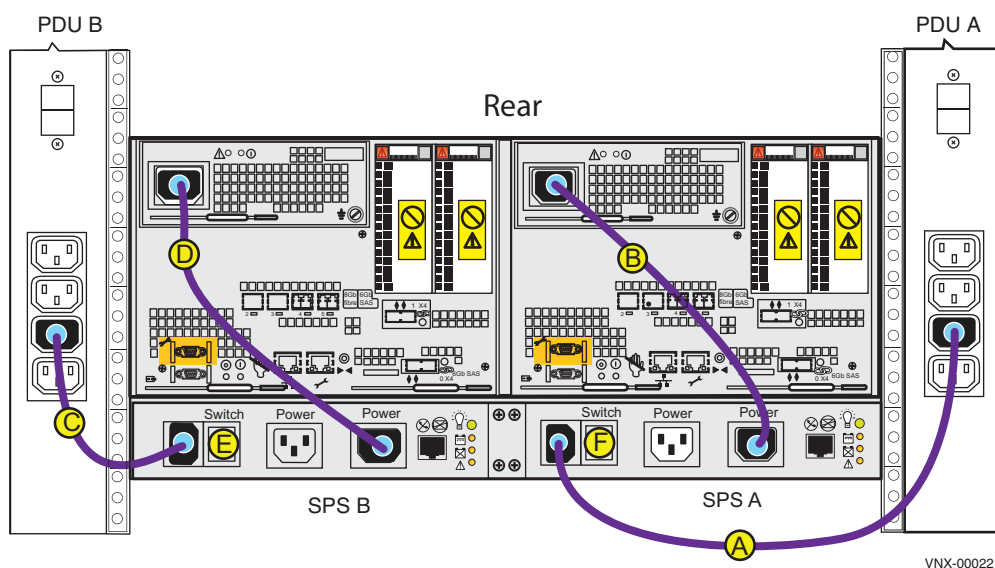

Figure 11 Connecting power cables
1. Ensure that the switches for SPS A and SPS B are turned Off, **(E)** and **(F)** in Figure 11.